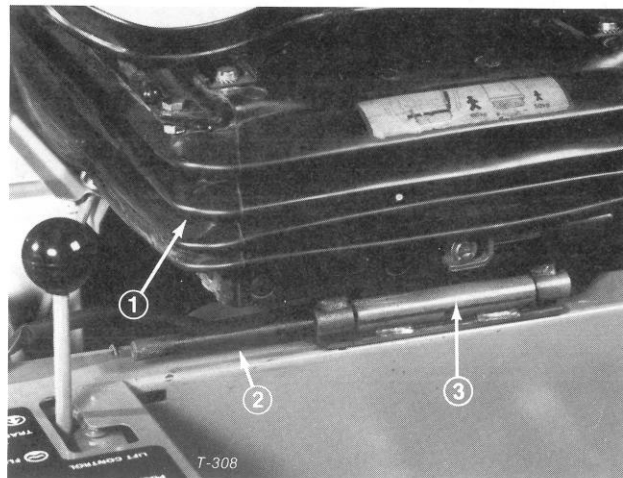

Figure 10
5. Unsnap rubber bellows and mount seat suspension to seat support with (4) capscrews, lockwashers and nuts. Resnap bellows in place.
6. Install seat suspension and seat support to unit with pivot shaft and roll pin (Fig. 10).